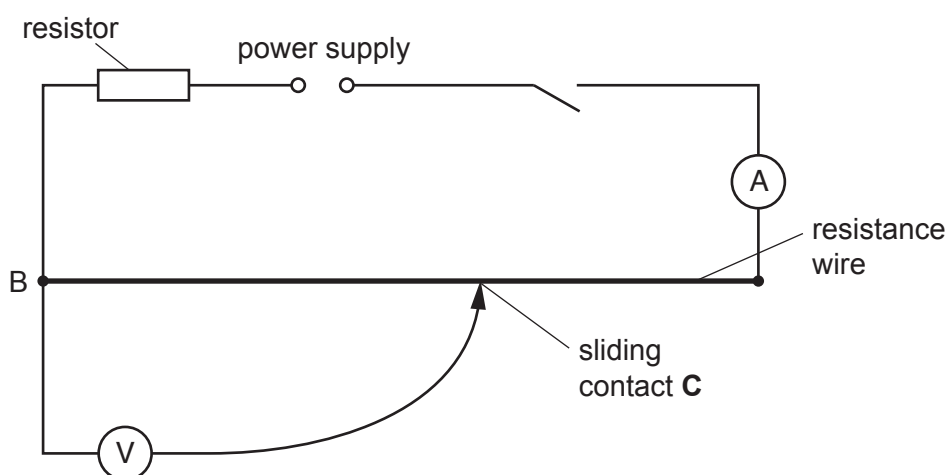
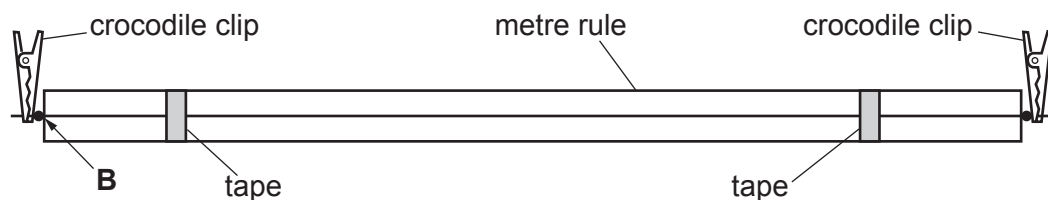

Fig. 2.1
Fig. 2.2
- (vii) Two suitable terminals (e.g. crocodile clips) attached to the constantan wire at the ends of the metre rule so that connections can be made to the circuit shown in Fig. 2.1.
- (ix) Sufficient connecting leads to set up the circuit shown in Fig. 2.1.
1. The circuit is to be set up for the candidates as shown in Fig. 2.1 and Fig. 2.2.
4. The wire must be attached to the metre rule as shown in Fig. 2.2.
Check that the circuit is arranged as shown in Fig. 2.1.